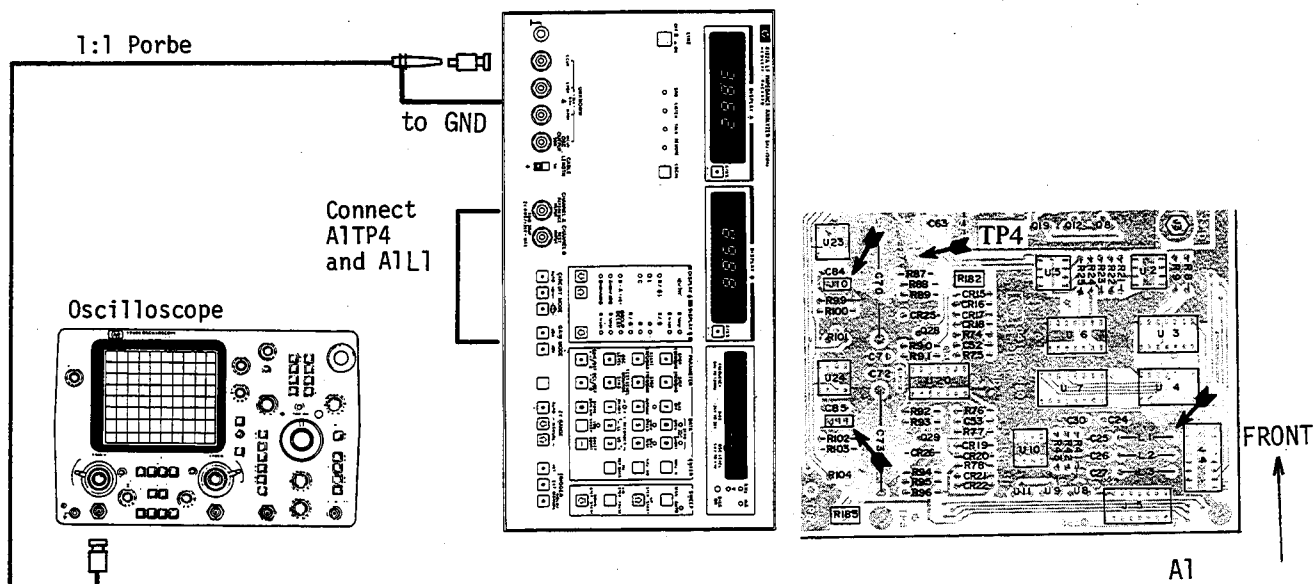

Figure 5-15. A1 L_{CUR} Amplifier Phase Adjustment Setup.
- d. Connect the 50 Ω termination to the L_{CUR} terminal on the 4192A and connect oscilloscope input to the outer conductor of the 50 Ω termination as shown in Figure 5-15.